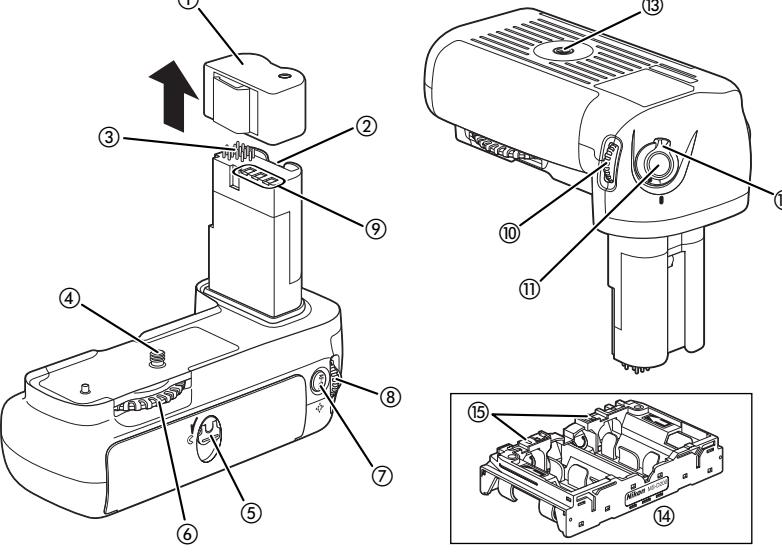

図 1 /Figure 1/Abbildung 1/Figure 1/Figura 1/Figur 1/Рисунок 1
△ 電源接点(図 1-⑩) をショートさせないこと
△ 電池を入れた単 3 形電池ホルダーの電源接点(図 1-⑩) をショートさせないこと
Parts of the MB-D200 (Figure 1)
Before attaching the battery pack, be sure that the camera is off and that the MB-D200 control lock (Figure 1-⑫) is in the L position.
- Remove the contact cap (Figure 1-①) from the battery pack. Be sure to replace the cap when the battery pack is not in use. The cap can be threaded onto the camera strap when removed from the battery pack.
AA: Place six AA batteries in the MS-D200 battery holder in the orientation shown on the inside of the holder (Figure 1-⑭) and slide the holder into the battery chamber until it is secured by the clips as shown in Figure 2G.